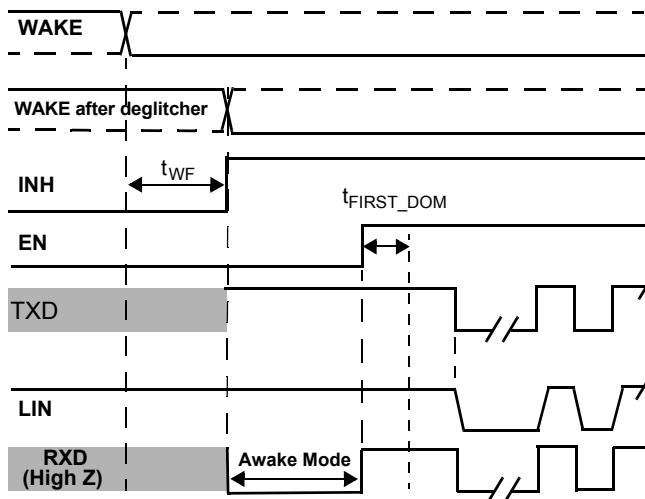

Figure 15. WAKE Pin Wake-up with TXD High
28. See Figure 15, 18, Figure 25 and Figure 26
An internal filter is implemented to avoid a false wake-up event due to parasitic pulses (See Figure 15 and 18). WAKE pin input structure exhibits a high-impedance, with extremely low input current when voltage at this pin is below 27 V. Two serial resistors should be inserted in order to limit the input current mainly during transient pulses and ESD. The total recommended resistor value is 33 k Ω . An external 10 to 100 nF capacitor is advised for better EMC and ESD performances.